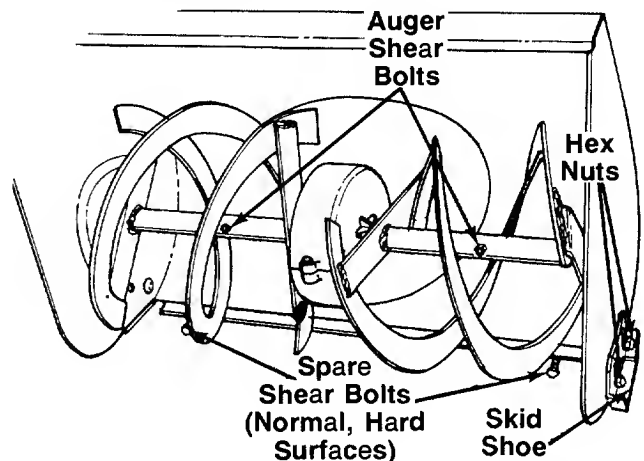

FIGURE 25.
2. Place the threaded ends of the spare shear bolts (provided in hardware pack) under the scraper bar, one at each end. See figure 25.
The augers are secured to the auger shaft with two special shear bolts and hex lock nuts. If you hit a foreign object or ice jam, snow thrower is designed so the bolts will break (to protect the snow thrower). Refer to figure 25.